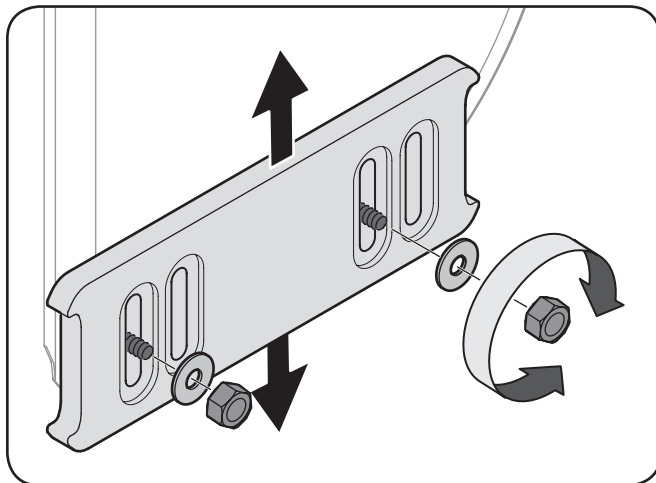
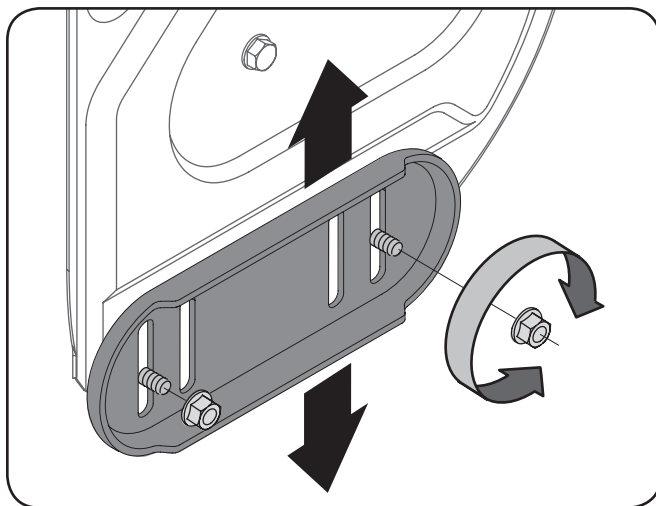

Figure 3-14
Figure 3-15
1. Loosen the four hex nuts (two on each side), washers (if applicable) and carriage bolts. Move skid shoes to desired position. See Figure 3-14 and Figure 3-15).